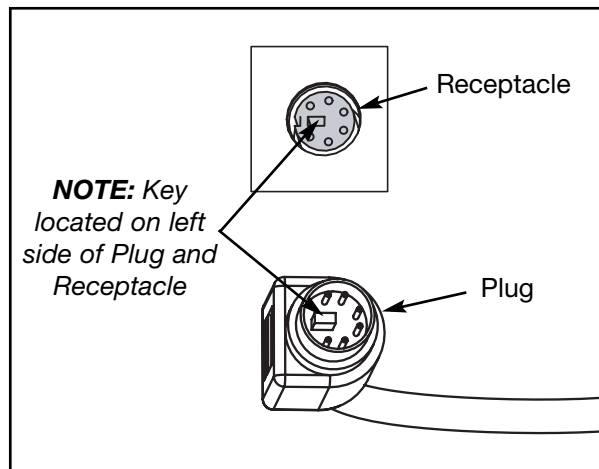

Figure 8
D. Locate the CPU access hole. See Figure 8.
NOTE: The keyboard cable plugs are keyed and can only be inserted in one direction. Forcing cables into the CPU receptacle can damage the cable plug or CPU. See Figure 8.